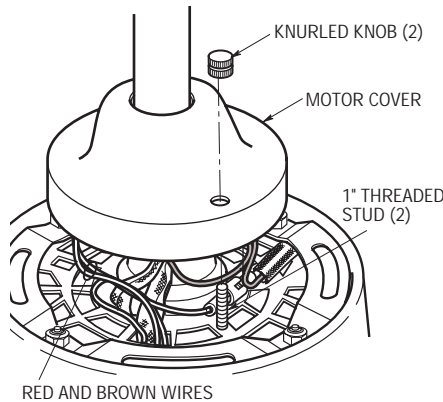

Figure 12
- Screw two 1" threaded studs (supplied with ceiling fan) into the motor (Figure 12). Leave approximately 7/8" of the stud extending above the motor. Slide the motor cover over the downrod and rotate the cover until the threaded studs protrude; install two knurled knobs (supplied with ceiling fan).